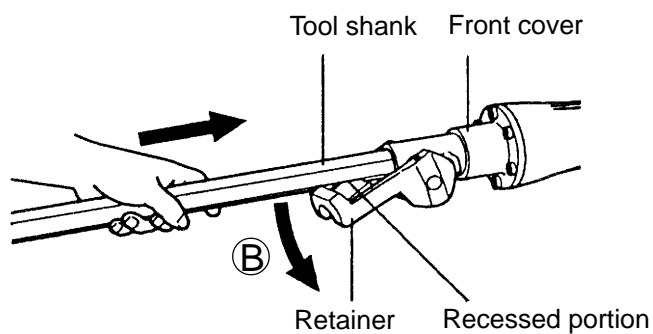
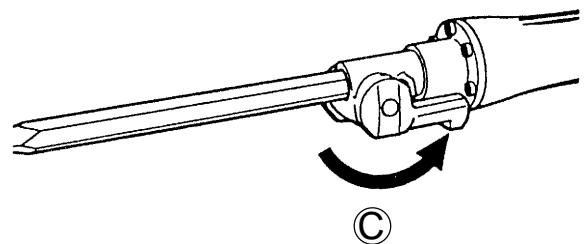

Fig. 11
Fig. 12
- (2) Mounting standard hex. shank tool and retaining groove tool without collar
Lower the retainer in (B) direction and insert the tool shank into the hexagonal hole of the front cover as far as it will go facing the recessed portion of the tool shank to the retainer (Fig. 11). Turn the retainer in (C) direction to fix the tool shank (Fig. 12).